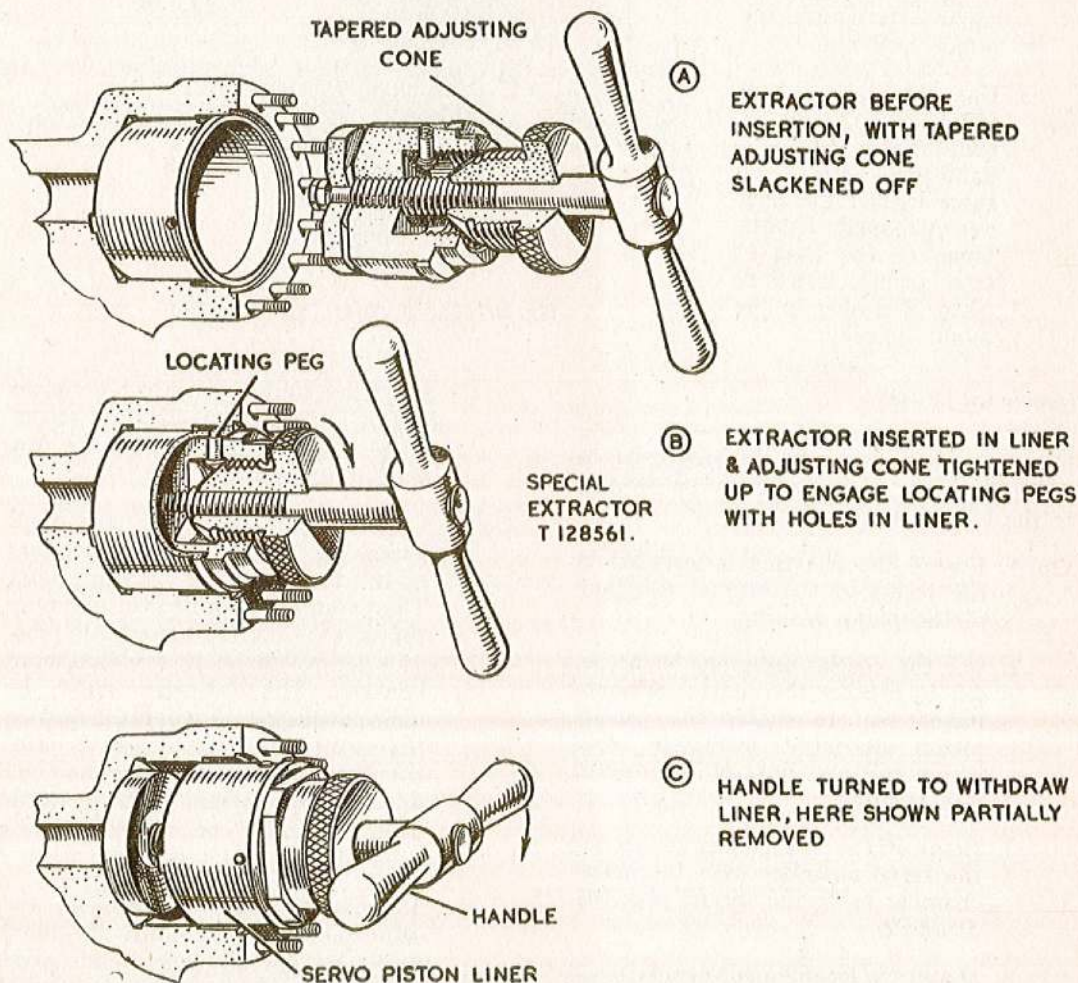
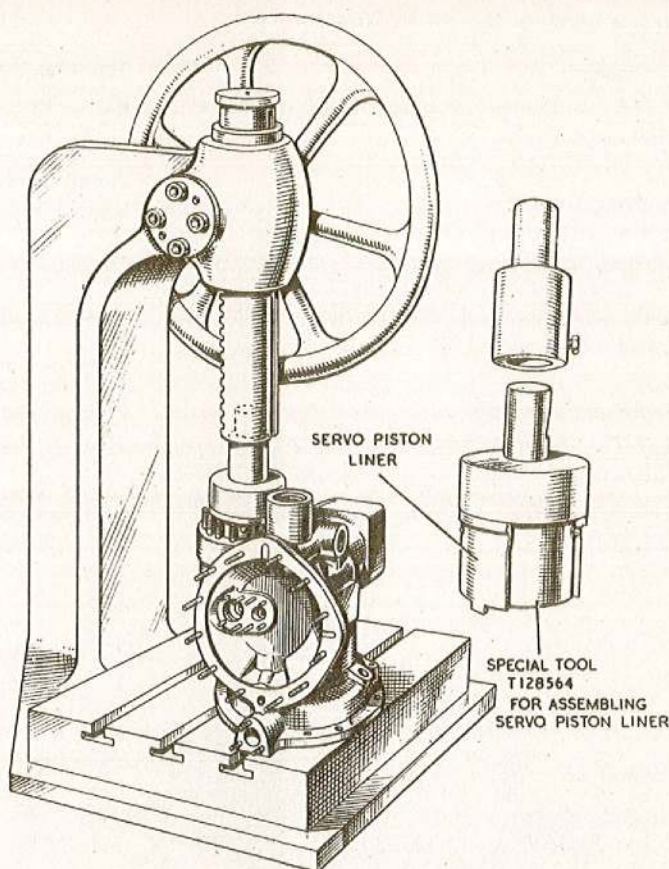

Fig. 29. Servo piston liner removal, using special extractor
Fig. 30. Servo piston liner insertion
T.128561 (*fig. 29*); the new liner must be inserted by using the special tool T.128564 (*fig. 30*); the following procedure must be adopted:—
3. Use the special tool (*para. 85, fig. 30*), in conjunction with a hand-press, until the three legs of the liner are pressed firmly home to the base of the servo control piston chamber in the pump housing.